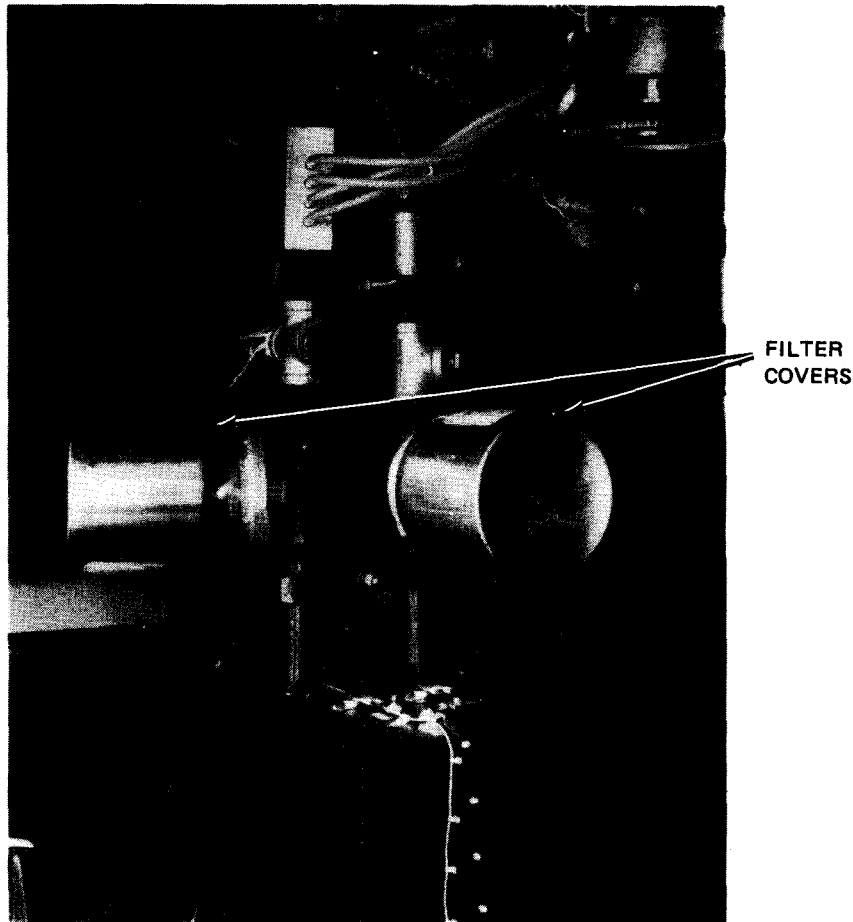

Figure 6-17. Vacuum Pump Filter Covers
3. Remove each filter cover (Figure 6-17) from the unit by turning the cover counterclockwise.